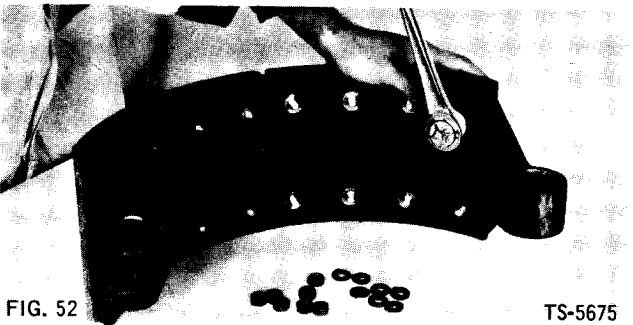

FIG. 52
4. Check brake lining for oil or grease saturation, wear, and looseness. If loose, tighten retaining bolts to 200 to 220 inch-pounds torque. If saturated with grease, replace all lining blocks. To remove linings, remove nuts, lockwashers, and bolts retaining lining to shoes (Fig. 52).